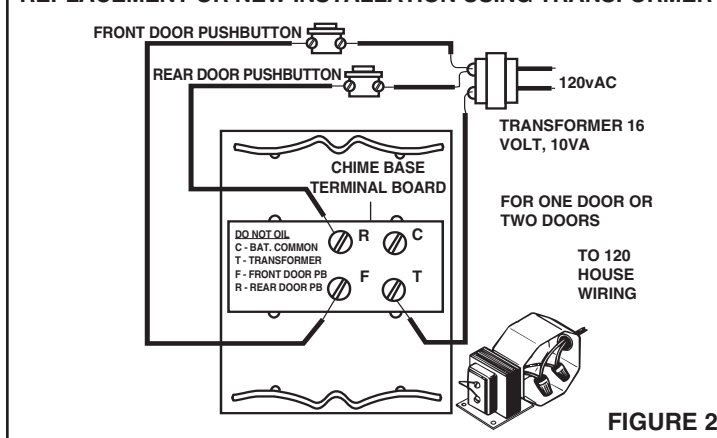

FIGURE 2
2. Run wires as shown in Figure 2 for installation using transformer.
2. **INSTALLATION USING TRANSFORMER.** Refer to Figure 2. Connect pushbutton and transformer wires to terminal screws marked Front, Transformer, and Rear.